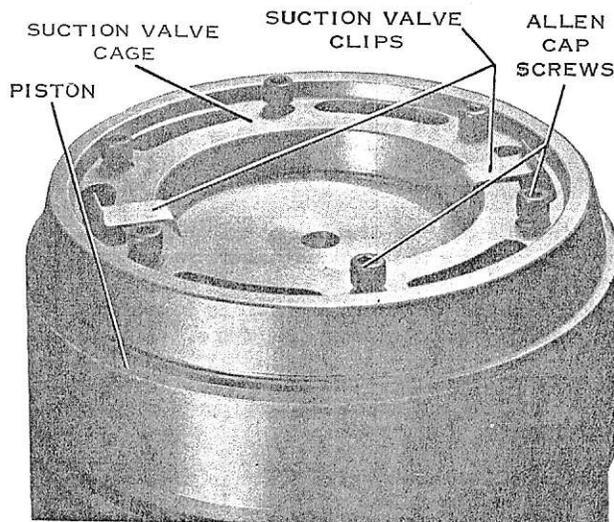

FIG. 42— Suction Valve Clips Installed On Suction Valve Cage
3. Partially loosen the allen cap screws holding the suction valve cage and insert the clips over the valve cage as shown in Fig. 42 making sure that the clips engage the suction valves.
7. Press the valves against their springs and place the clips over the suction valve cage and valves as shown in Fig. 42.